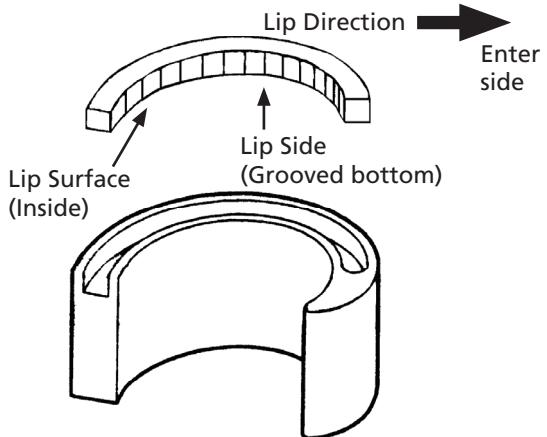

Figure 5
Insert tip seal so that the lip of tip seal is on the bottom of seal groove and inner side of involute and the direction of lip faces the center of involute (curving spiral). See Figure 5. This is to be done for both FS and OS sets.
1. Insert new HP tip seal from the center section for OS or Orbit Scroll so that there will be no clearance at the tip (start) section (See Figure 5 and 6).